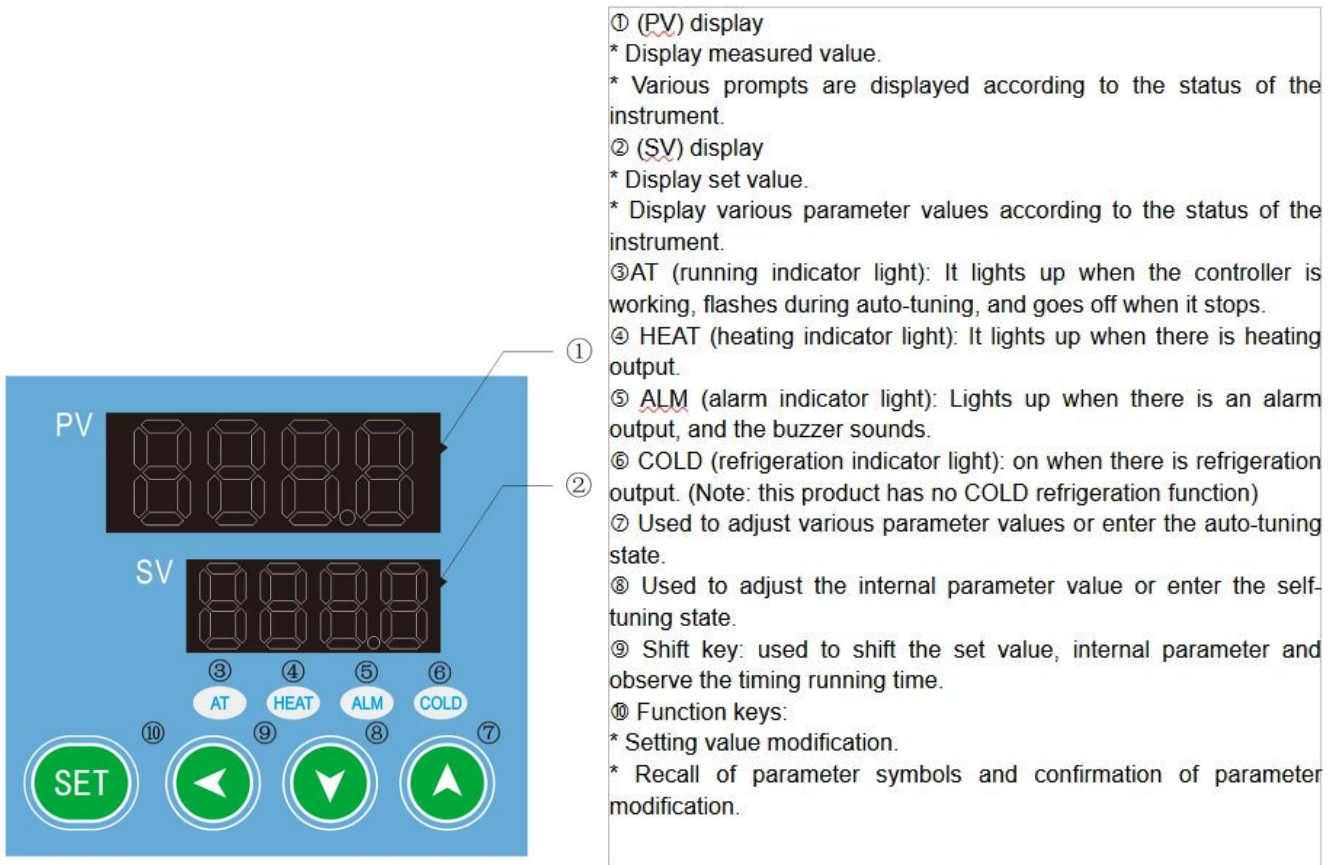

Figure 1
- The layout of the product temperature controller panel (see Figure 1).